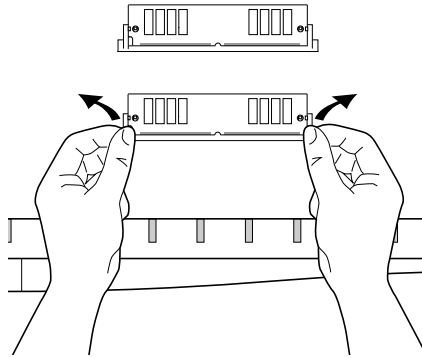

Figure 6. Removing Memory Module
1. Remove the routing engine from the router, using steps 1–9 of the procedure “Install the memory upgrade,” page 5. 2. Disengage the front memory module by pulling the retainers alongside the ends of the module outward with your thumbs and tilting the top of the module forward with your fingers until the module clears its retainers. (See figure 6, page 10.) Remove the memory module from the socket. 3. Reinstall the routing engine, using steps 15–17 of the procedure “Install the memory upgrade,” page 5. 4. Switch on the router power, and check the LEDs during the power-on self-test for a routing engine failure.